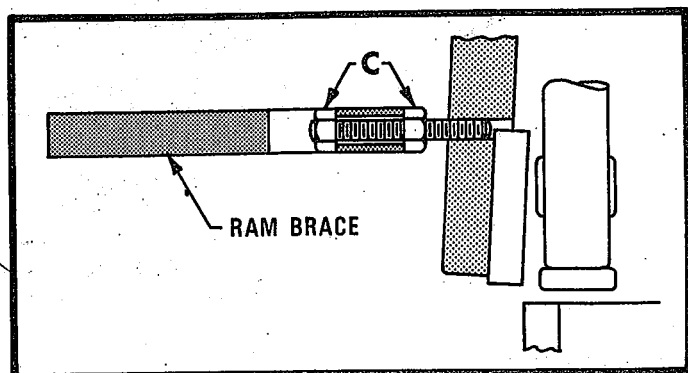
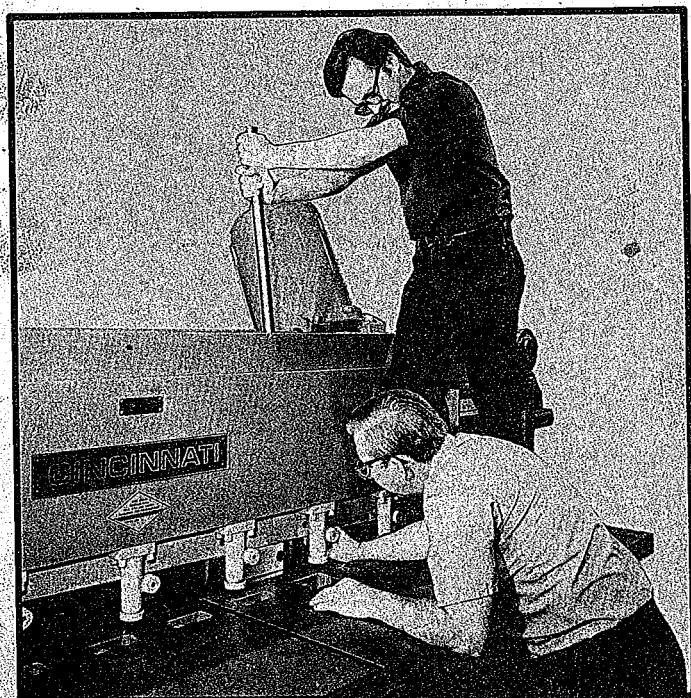

FIGURE 68
FIGURE 69
8. Jog or move the ram upwards, checking knife clearance as knives cross at each holddown unit. The knife clearance must decrease as you approach the center of ram. Clearance at center of ram should be .002" smaller than clearance set at each end. If clearance varies, realign ram by means of adjusting nuts "C" on Figure 68.
9. The rigid ram brace controls the alignment of the ram by means of studs and nuts. By loosening one adjusting nut "C"; Figure 68, and tightening the other you can move the ram the desired amount. One man should check the clearance while another stands on the table to adjust the ram. The long handle wrench, shipped with the machine, is to be used to make this adjustment. Refer to Figures 69 and 70.